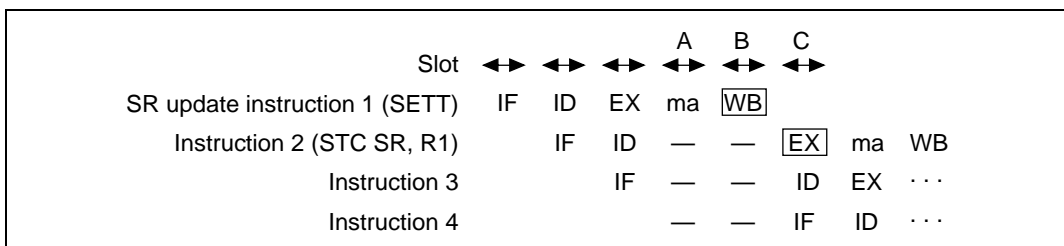

Figure 10.10 Affect on Pipeline of SR Update Instructions
Instructions (SR update instructions) that overwrite the M, Q, S, and T bits of the status register (SR) use the WB stage of the pipeline. If an instruction (instruction 2) that reads SR comes immediately after such an instruction, the data to be read is not yet ready and the EX stage of instruction 2 is stalled until the overwriting of the data in SR is complete. However, in the case of instructions that overwrite all the bits of SR, such as LDC Rm,SR; LDC.L@Rm+,SR; or RTE, no stall occurs due to the contention. The instructions that reads SR are STC SR,Rn; STC.L SR,@-Rn; and TRAPA. The status of the pipeline when a stall occurs is shown in Figure 10.10.
Examples of multiplier access contention are shown in figures 10.10 and 10.11. In these cases, the contention between MA and IF is not taken into consideration.